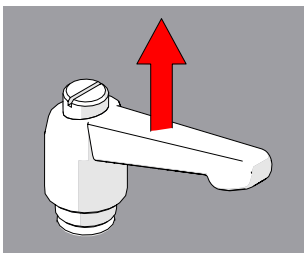

Fig. 21 - Pull ratchet handle
1. Pull the ratchet lever away from the base of which it is connected (*Fig. 21*).